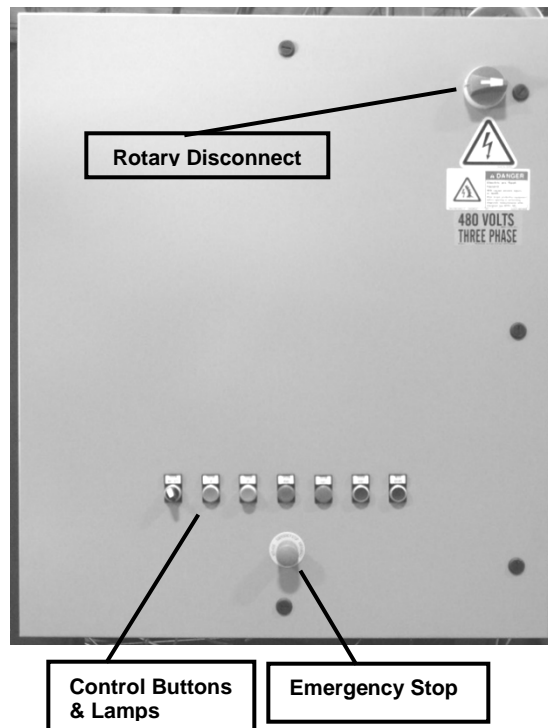

FIG. 16 Control Panel
3. Loosen the drive motor/speed reducer mounting bolts and slide the assembly forward on its adjustment screws to relieve tension on the drive chain. See Figure 16.
B. Drive sprocket turns but head shaft does not, check the drive key to ensure that it is not sheared (see Figure 16). If the key is not sheared, check ratchet clutch for a misadjusted spring, or damage to teeth. If a Shear Pin Drive has been fitted then see “Replacement of Head Shaft Shear Pin.”